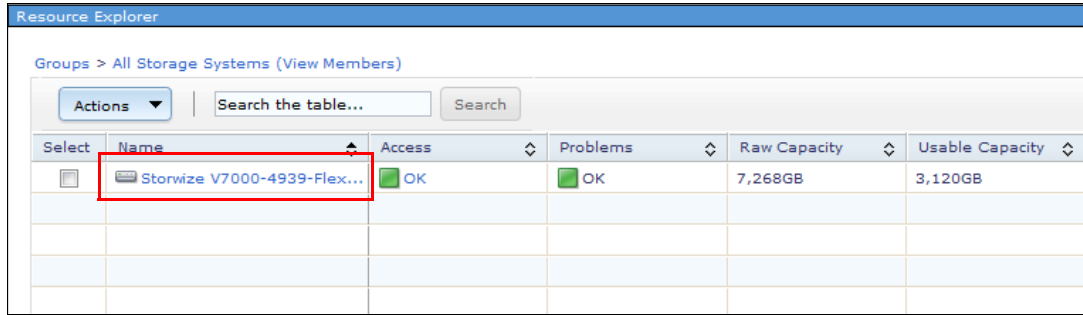

Figure 3-92 Selecting target storage
4. Select target storage (for example, IBM Storwize V7000), as shown in Figure 3-92.